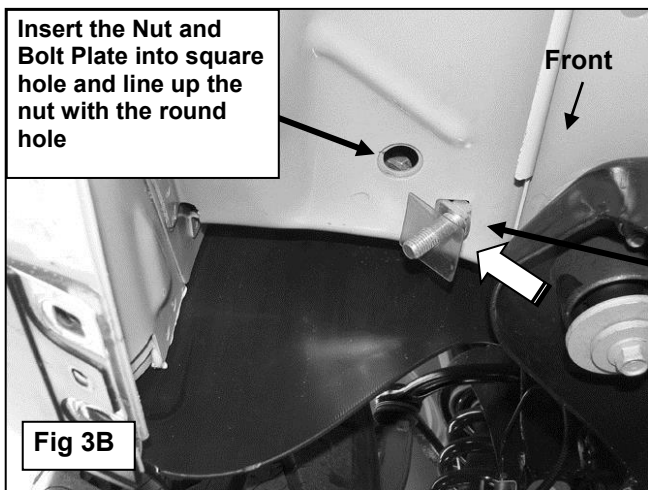

Fig 3B
- Next, locate the round and square holes in the floor panel next to the body mount. Select (1) 12mm x 40mm x 10mm Nut and Bolt Plate and thread (1) 12mm Plastic Retainer part way onto it, (**Figure 3A**). Insert the Nut and Bolt Plate into the square hole in the floor, (**Figure 3B**). Line up the nut on the Nut and Bolt Plate with the round hole. **IMPORTANT:** The Plastic Retainer is designed to prevent the Bolt Plate from falling into the body cavity and to aid in mounting the Bracket. After inserting, thread the Plastic Retainer down flush against the body panel. **NOTE:** For passenger side installation, temporarily remove the ground strap if interfering with install.